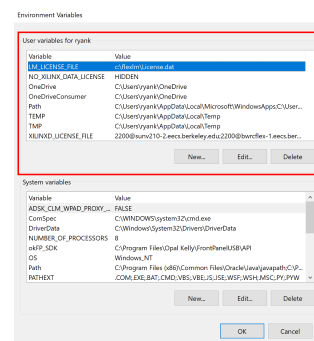

Figure 6: Environment variables dialogue.
- Double click the "Path" variable in the user variables dialog (Fig. 6).